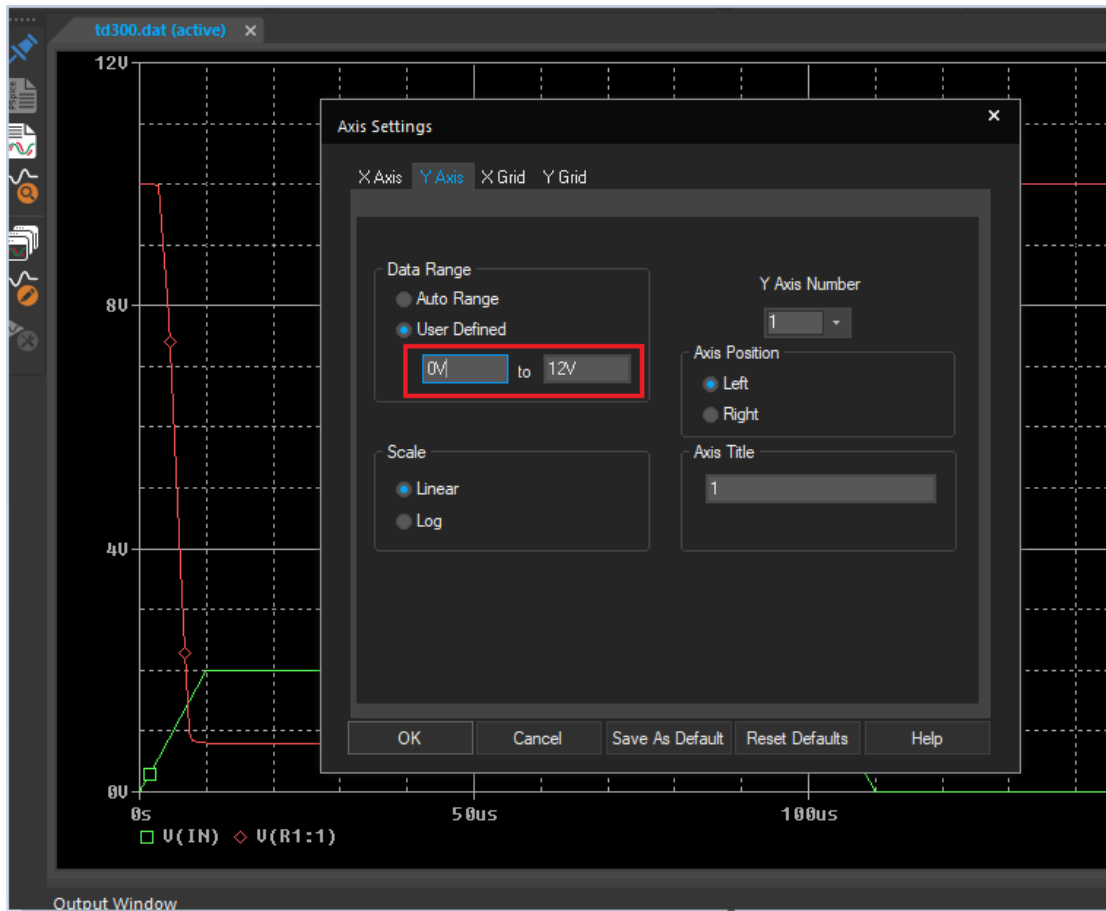

Figure 2-22: User-Defined Axis Settings
30. Configure the **Data Range** section to match Figure 2-22 for improving the Y-axis range. This will fix the displayed voltage range so that the following steps will not make undesired changes as you select different nodes for display in Probe.
31. Select the **OK** button on the **Axis Settings** form. If your displayed voltage scale did not previously match Figure 2-22, it should now.